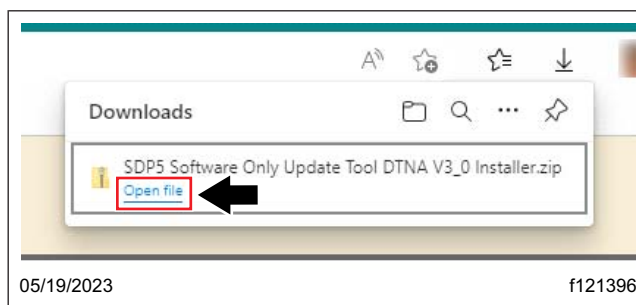

Fig. 3, Opening the Downloaded File
- A 'Downloads' box will appear in the upper-right corner of the browser window. Once the download is complete, select 'Open file' to see the contents of the downloaded zip file within the file explorer. See Fig. 3.